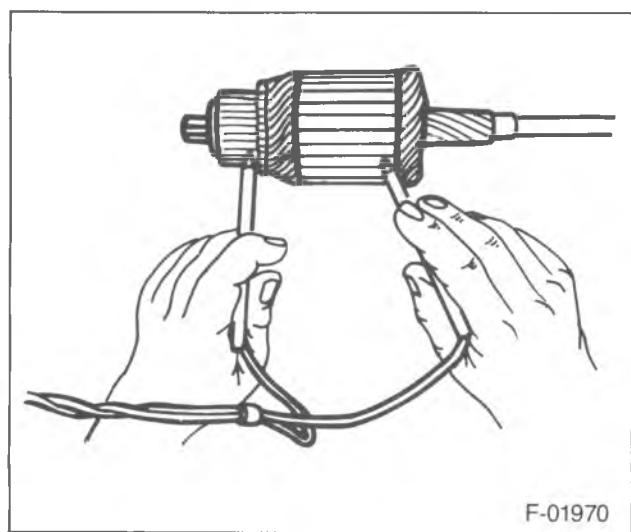

Figure 32—Testing the Armature for Grounds
- 7. Armature for grounds by using a test lamp (figure 32).